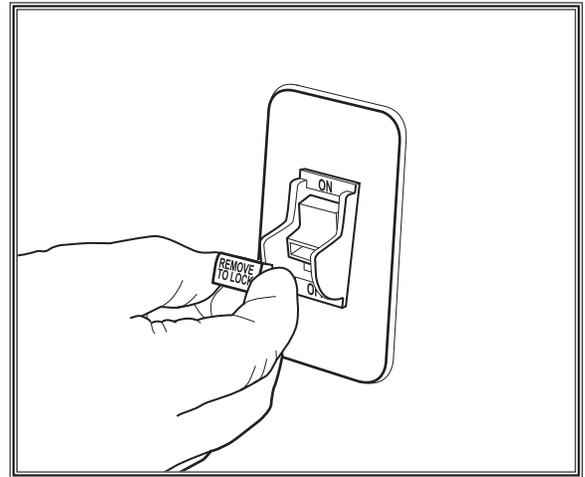

Figure 17. Removing switch disabling key from toggle switch.
7. Remove switch disabling key, as shown in **Figure 17**.